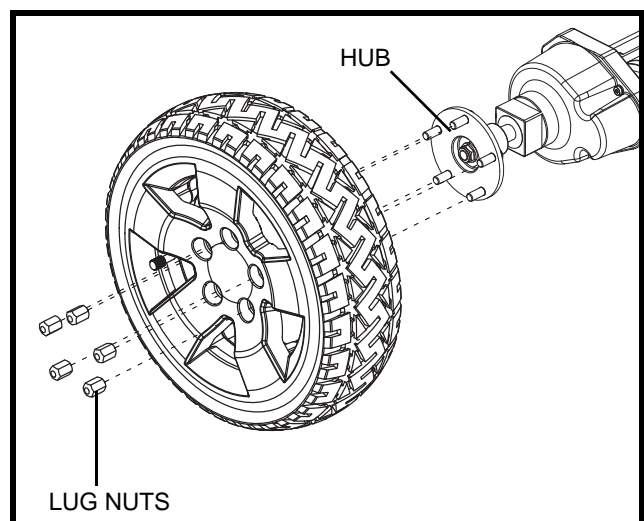

Figure 27. Solid Tyre Wheel Removal
3. Remove the lug nuts. **See figure 27.**